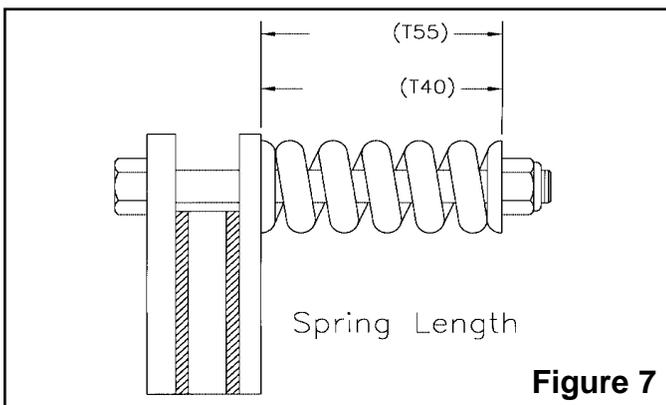

Figure 7
- Tighten each of the eight bolts evenly until the springs are compressed to the proper dimension for your tiller model as shown in Figure 7. T40 Model length is  $1\frac{3}{16}$ " (1.187) and T55 Model length is  $1\frac{5}{32}$ " (1.156).
If a clutch continues to slip when the springs are compressed to the proper length as shown in Figure 7, check friction disc for excessive wear. Discs are  $\frac{1}{8}$ " when new. Replace discs after  $\frac{1}{16}$ " wear. Minimum disc thickness is  $\frac{1}{16}$ ".